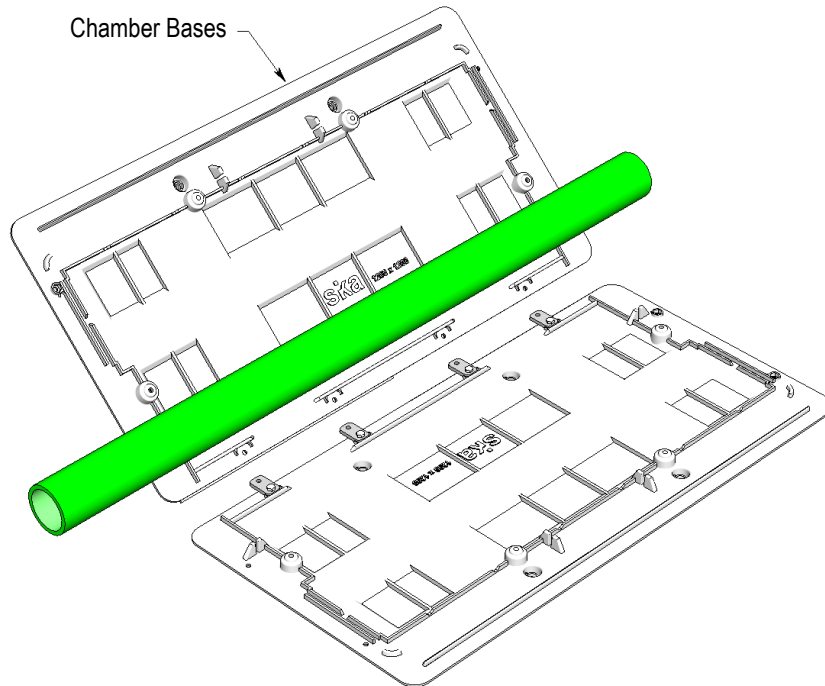

Fig 2
2. The **chamber base** may be assembled around existing duct work. Ref Fig 2